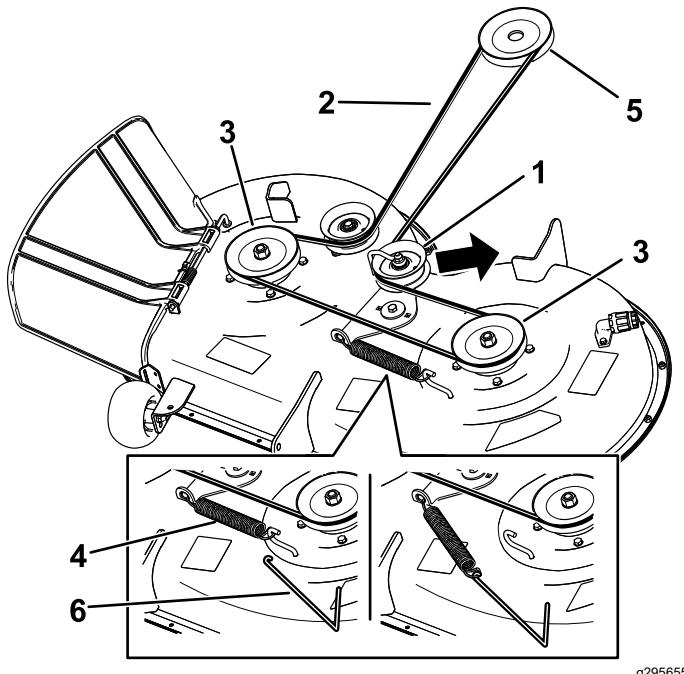

Figure 50
6. Using a spring-removal tool (Toro Part No. 92-5771), remove the idler spring from the deck hook to remove tension on the idler pulley, and roll the belt off the pulleys (Figure 50).
7. Route the new belt around the engine pulley and mower pulleys (Figure 50).
8. Using a spring-removal tool (Toro Part No. 92-5771), install the idler spring over the deck hook and place tension on the idler pulley and the mower belt (Figure 50).